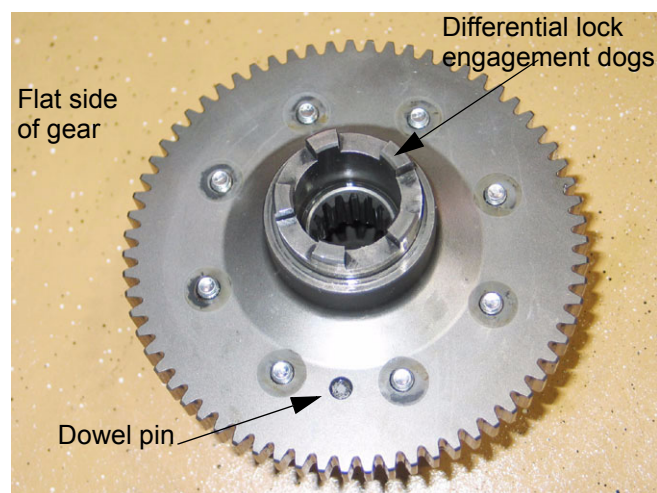

Figure 9.57
- 9.57. If the ring gear is separated from the differential housing, alignment is maintained by a single solid dowel pin. See Figure 9.57.